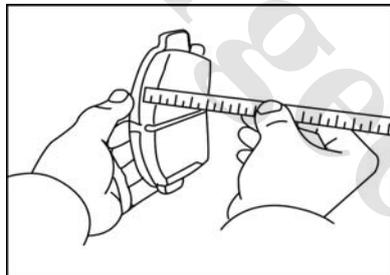

Fig. 2-67
- 2) Check the thickness of the lining of brake pad. Measure the thickness by a ruler. See Fig. 2-67. Standard: 10.0mm; min: 1.0mm.